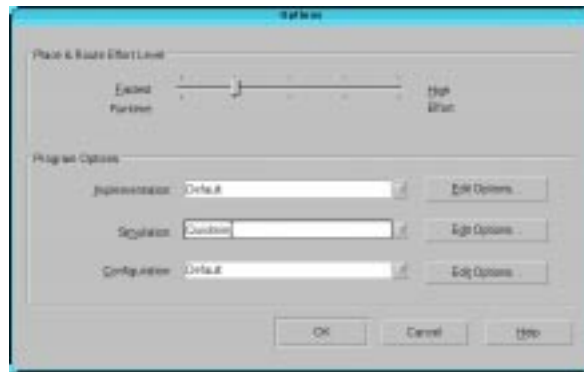

Figure 10-75 Implementation Options Dialogue Box
12. Choose the Simulation type to be Quicksim. This will automatically set the 'Correlate simulation data to input file' options and will also write out a Mentor EDIF. See the following Figure 10-75.